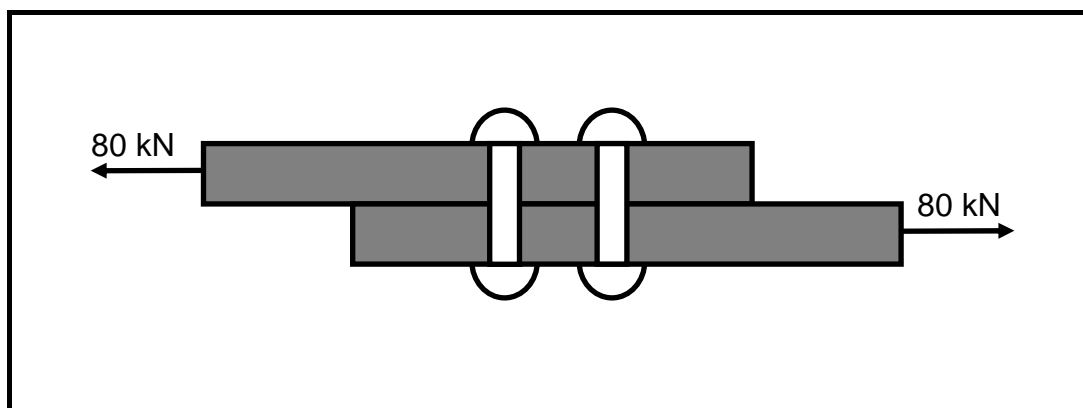

FIGURE 2.3
2.5 FIGURE 2.3 shows two 12 mm rivets under shear stress.